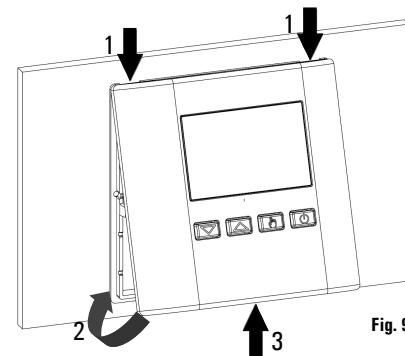

Fig. 9
- Close the left side of the cover while slightly pressing with a finger, at the same time, the plastic tooth on the left side to the internal (see the arrow in Fig. 9).